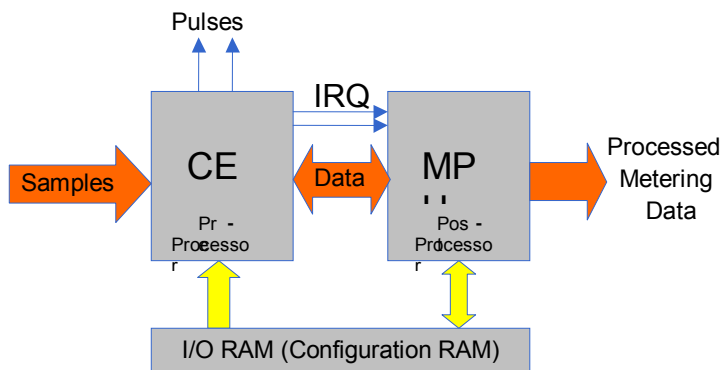

Figure 6: MPU/CE Data Flow
The data flow between the Compute Engine (CE) and the MPU is shown in Figure 6. In a typical application, the 32-bit CE sequentially processes the samples from the current and voltage inputs on pins IA, VA, IB, and VB, performing calculations to measure active power (Wh), reactive power (VARh),  $A^2h$ , and  $V^2h$  for four-quadrant measurement. These measurements are then accessed by the MPU, processed further and output using the peripheral devices available to the MPU.